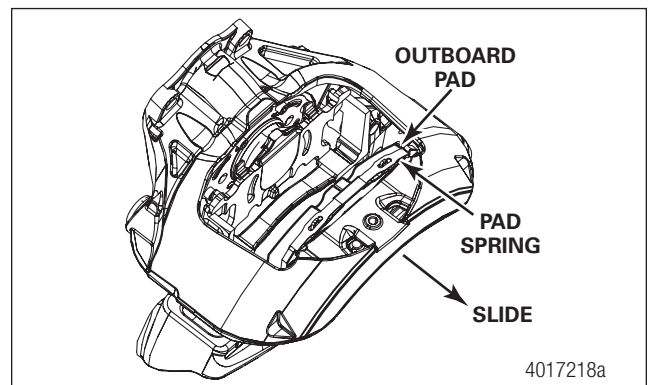

Figure 6.18 Slide the caliper out.
- Slide the caliper OUTWARD. Install the outboard pad and spring into the outboard side of the caliper. Figure 6.18.